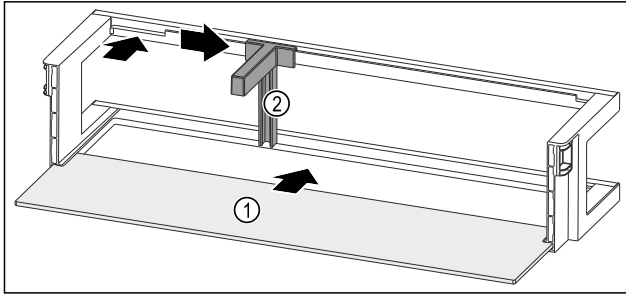

Fig. 137 Door racks with shelf
- ▶ Push the shelf Fig. 137 (1) into the side cutouts.
- ▶ Insert the bottle holder Fig. 137 (2) into the recess.
- ▶ Push the bottle holder Fig. 137 (2) to the side into the desired position.